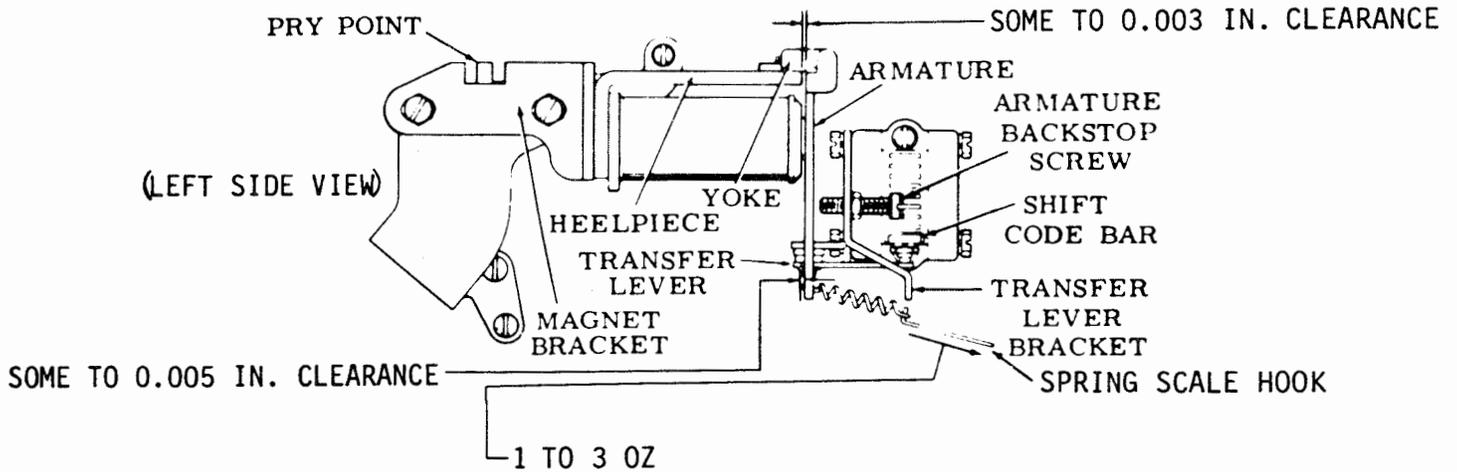

Figure 6-190. Shift Magnet Yoke, Shift Magnet Armature, and Shift Magnet Armature Return Spring
(1) Shift Magnet Yoke. Adjust as follows:
- (a) Refer to figure 6-190.
(2) Shift Magnet Armature. Adjust shift magnet armature as follows:
(a) Refer to figure 6-190.